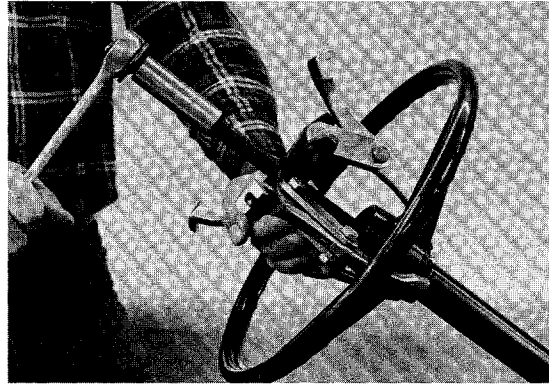
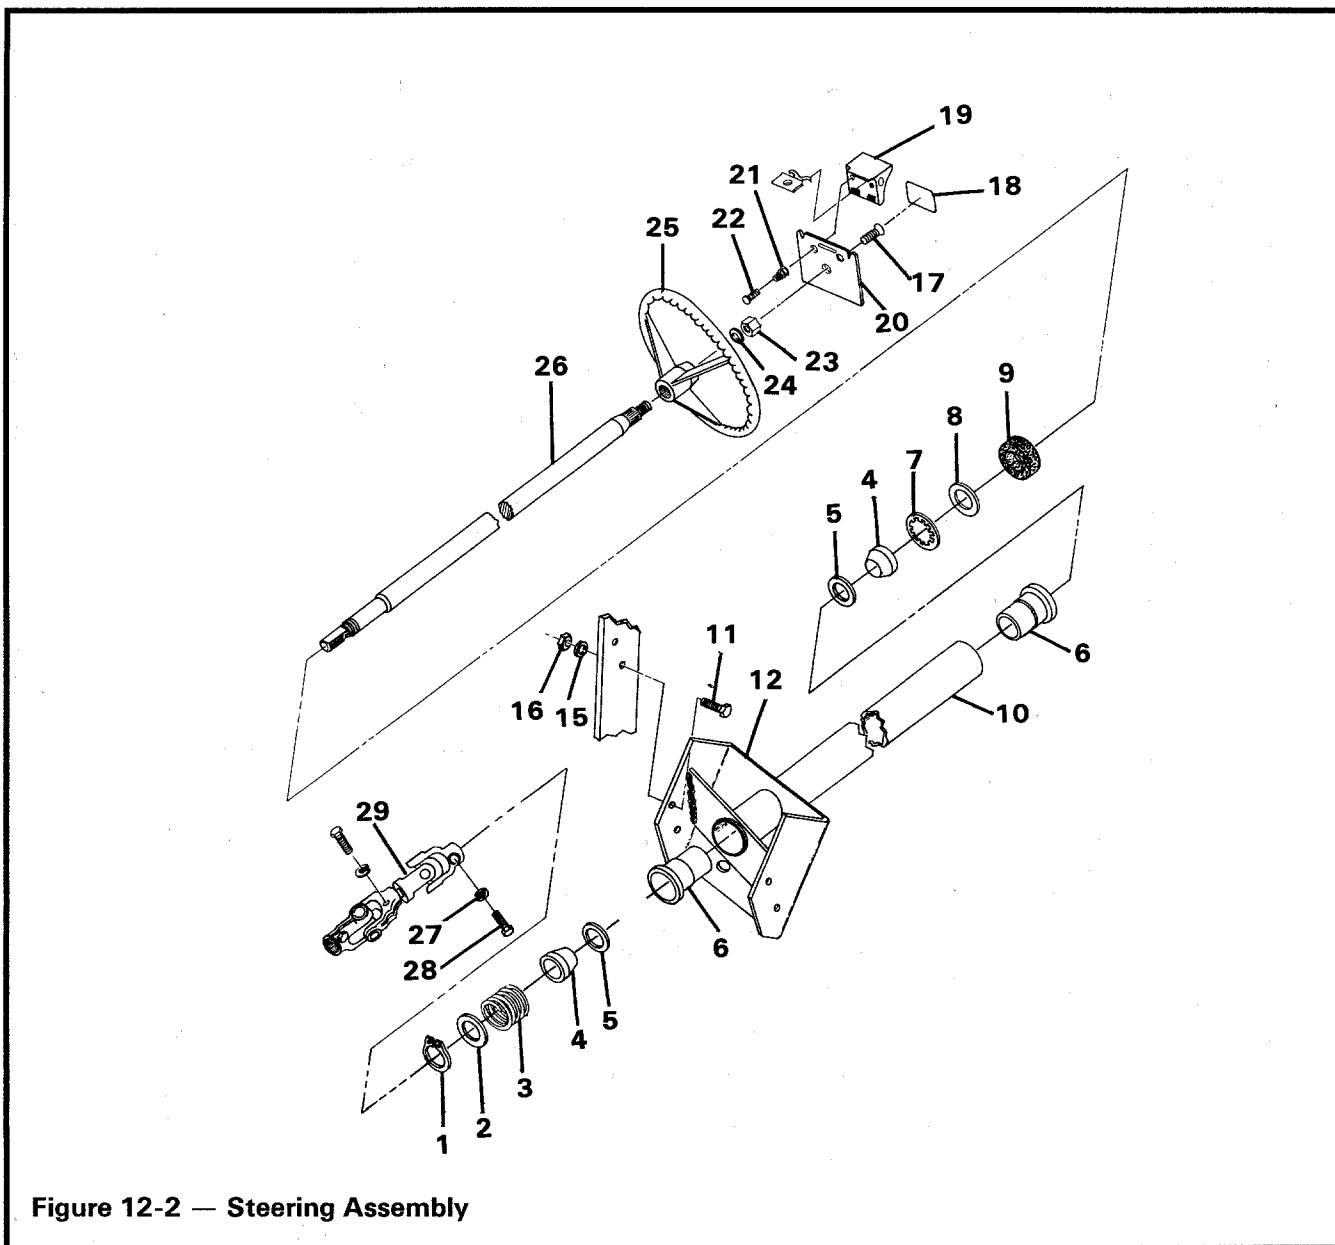

Figure 12-1
Figure 12-2 — Steering Assembly
1. Remove operating instructions decal (18) from scorecard plate (20) to expose scorecard plate mounting screw (8) (Figure 12-2).
2. Remove mounting screw (17) and scorecard plate (20).
4. Loosen steering wheel nut (23) and back off approximately $\frac{1}{4}$ inch. Do not remove yet.
5. Pull steering wheel loose from shaft with puller (**Figure 12-1**).
6. Remove steering wheel nut (23) and washer (24) from shaft and remove steering wheel.
7. Dust seal (9) can be removed if necessary.
2. Remove bolt (28) and lockwasher (27) on upper universal joint and remove universal joint from steering column.
3. Remove nuts (16), washer (15) and bolts (11) from steering column tube (10) (**Figure 12-2**).
1. Insert the bearing seats (6) into the steering tube (10). Place a block of wood on top of the bearing seat (6) and tap lightly on wood block until the bearing seat is fully seated in the steering tube (10) (Figure 12-2).